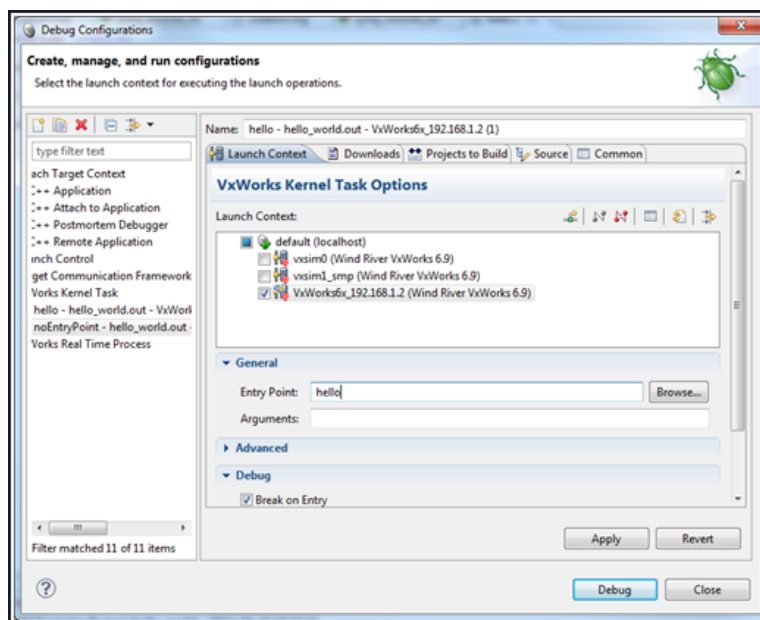

Figure 17: Debug Configuration Window
14. The Debug Configuration window opens, as shown in Figure 17, page 20.